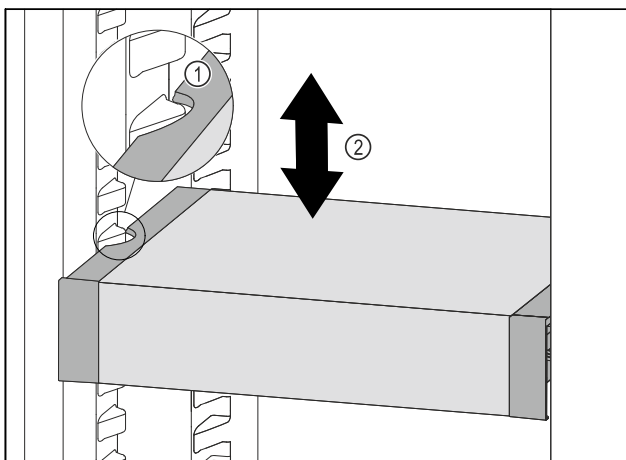

Fig. 110
- Pull VarioSafe forwards until the recesses in the side of the VarioSafe are at the level of the support rib in the refrigerator compartment. Fig. 110 (1)
- Move VarioSafe up or down in the refrigerator compartment until the desired height is reached. Fig. 110 (2)